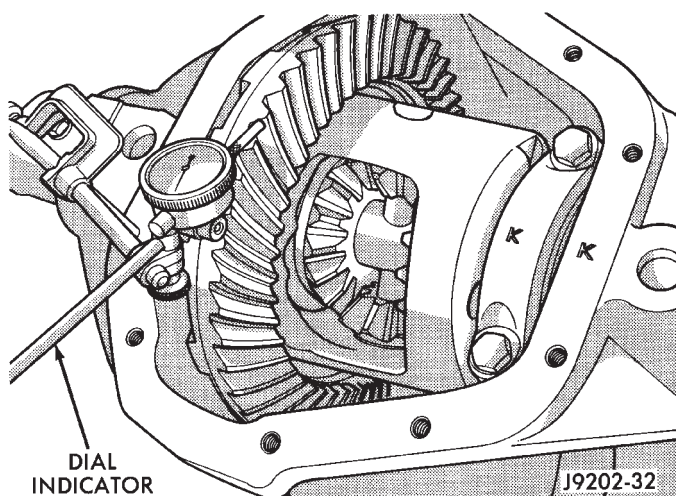

Fig. 63 Ring Gear Backlash Measurement
- (1) Rotate assembly several revolutions to seat bearings. Measure backlash at three equally spaced locations around the perimeter of the ring gear with a dial indicator (Fig. 63).